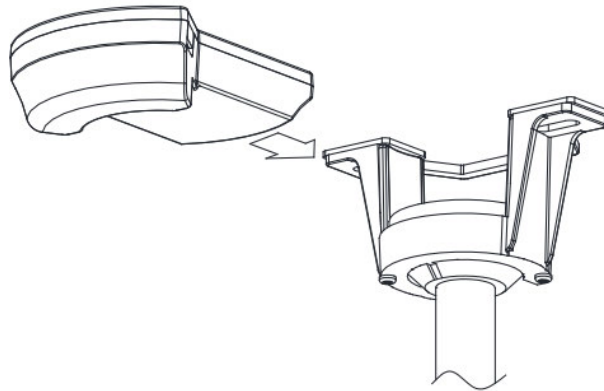

Fig. 12
7. Carefully insert the Remote Receiver above the hanger ball in the remainder spacing in the mounting bracket. Take care not to damage or loosen any of the wiring. (Fig. 12)